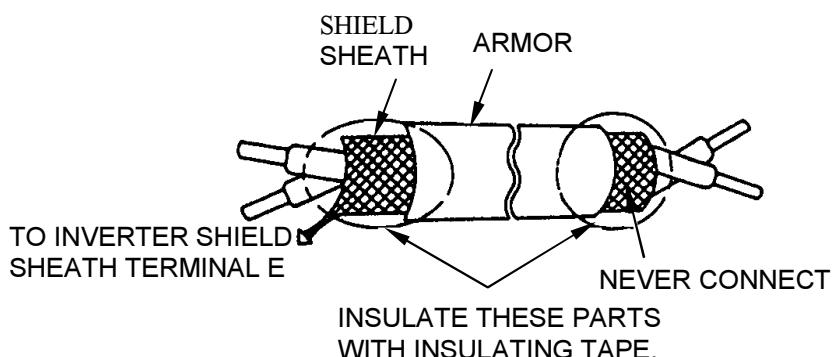

Fig. 4 Shielded Wire Termination
- (1) Separation of control circuit leads and main circuit leads: All signal leads must be separated from main circuit leads L1 (R), L2 (S), L3 (T), \oplus , \ominus , B2, T1 (U), T2 (V), T3 (W) and other power cables to prevent erroneous operation caused by noise interference.
- (2) Control circuit leads ⑨, ⑩, ⑯, ⑰, ⑱ (contact output) must be separated from leads 1 to 8, ㉑, ㉒, ㉕, ㉖, ㉗ and ㉑~㉗.
- (3) Use twisted shielded or twisted pair shielded wire for the control circuit line and connect the shield sheath to the inverter terminal E to prevent malfunction caused by noise. See Fig.4. Wiring distance should be less than 164ft (50m).